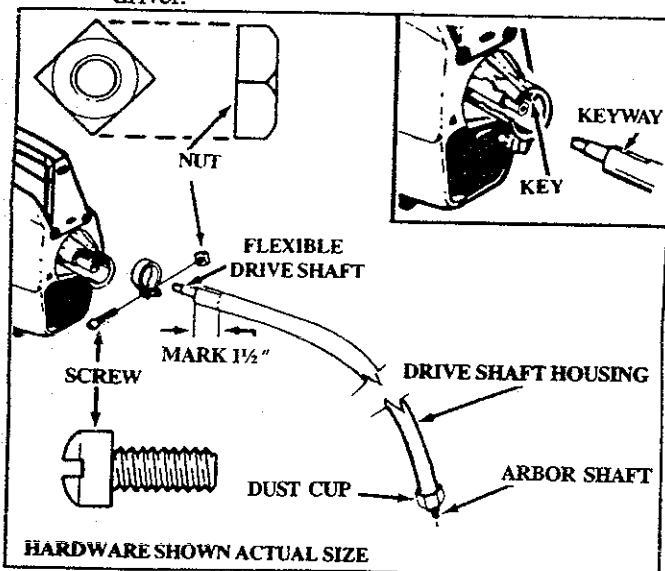

Figure 1
1. DRIVE SHAFT HOUSING — Figure 1
- Mark a line 1-1/2 inches from the straight end of the Drive Shaft Housing. Figure 1.
- Place the Clamp from the loose parts bag on the Engine Shroud as shown in Figure 1.
- Align the keyway in the Drive Shaft Housing with the key inside the Engine Shroud opening. Figure 1.
NOTE: The position of the Drive Shaft Housing must be as shown in Figures 1 and 5.